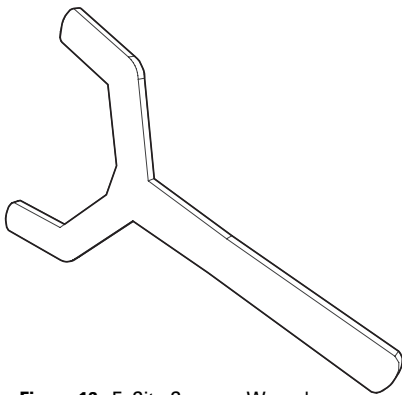
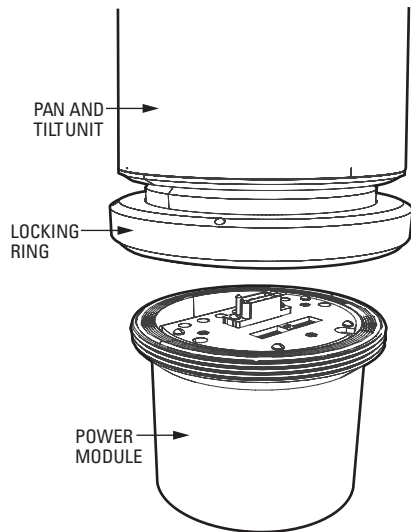

Figure 16. ExSite Spanner Wrench
Figure 17. Removing the ExSite Pan and Tilt Unit
2. Remove the pan and tilt unit from the power module (refer to Figure 16 and Figure 17):
8. Attach the pan and tilt unit to the power module (refer to Figure 16 and Figure 17 on page 18):